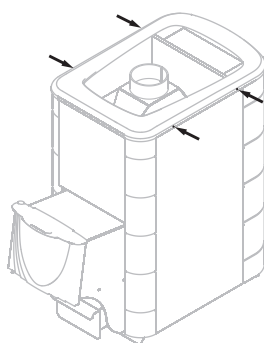

Figure 15. Drilling screws for dismantling of the frame of the convector of the stove
2. Remove the convector frame by unscrewing 4 self-driving screws (Figure 15)